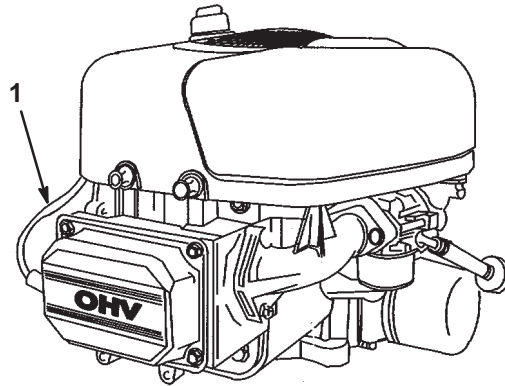

Figure 25
6. Disconnect the wire from the spark plug (Fig. 25).
3. Connect the wire to the spark plug (Fig. 25).